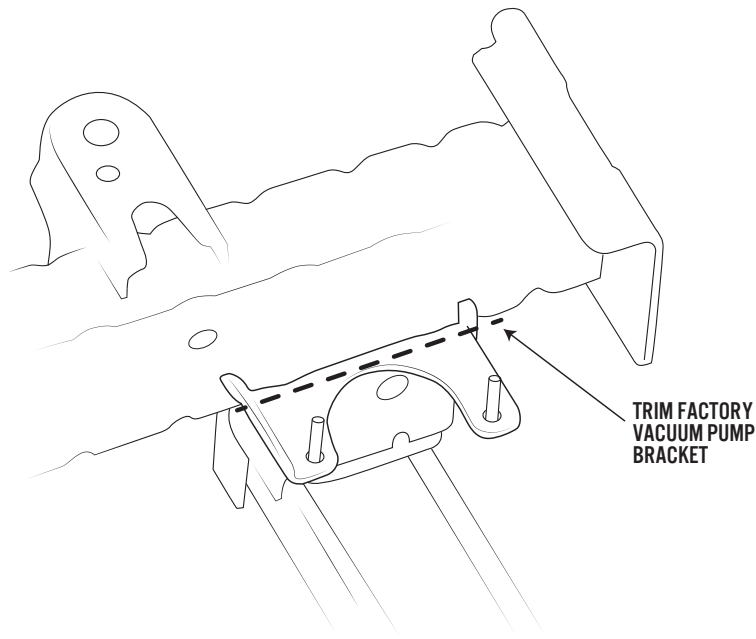

Figure 1
2. Start by removing the Skid Plate. Remove the six (6) M8 front bolts and two (2) M10 rear bolts. Leave the U-nuts on the bumper edge and compatibility beam for re-installation.
4. Disconnect the fog lamp wiring from the lamps and remove the two (2) bolts at each side of the bottom of the bumper. The fog lamp and bracket can be removed as one assembly.
5. Remove the four (4) M10 bolts on the backside of the bumper attaching the bumper to the closeout brackets.
6. While a helper holds the bumper in place, remove the eight (8) main button head bolts from the front of the bumper.
12. Trim the factory vacuum pump bracket for winch clearance (Fig 1).